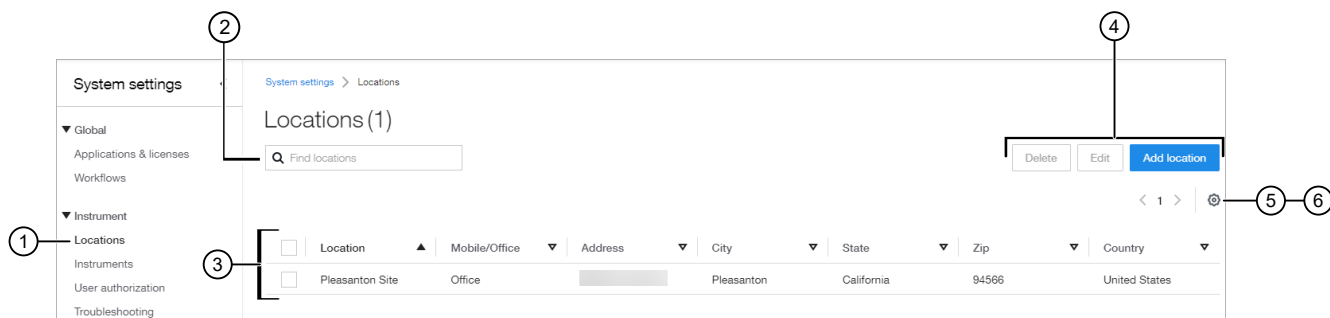

Figure 17 Locations screen
3. Depending on your user role permissions, you can use the screen tools to perform the functions shown in Figure 17.